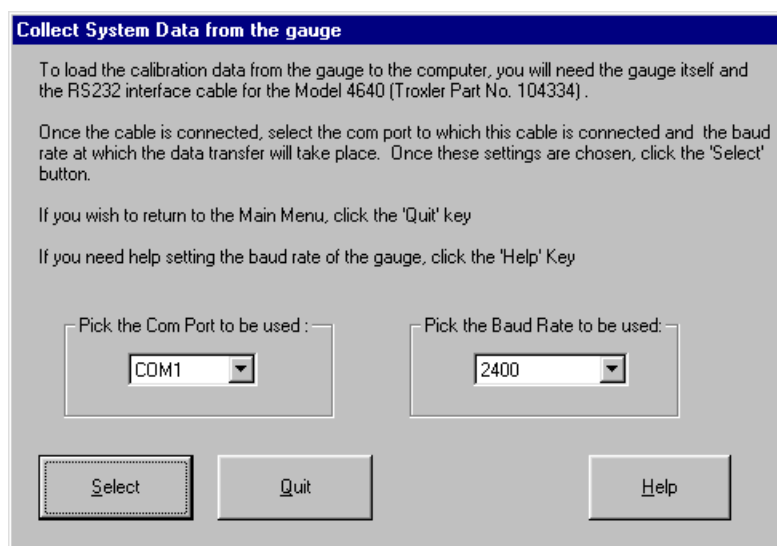

Figure 6-5. Selecting the Com Port and Baud Rate
10. The software now instructs the user on how to connect the gauge to the computer and configure the communications protocol, as shown in Figure 6-5.